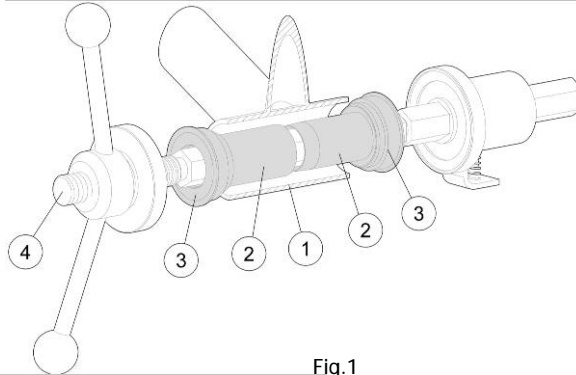

Fig.1
3. Place either Bearing cup ③ with plastic sleeve ② on the Headset press tool ④ as shown. Note: Right and Left bearing cups are the same.
4. Slide the Headset Press tool ④ through the Bottom bracket Shell and place the remaining Bearing Cup ③ with Plastic sleeve ② facing the Bottom bracket shell (Fig.1).